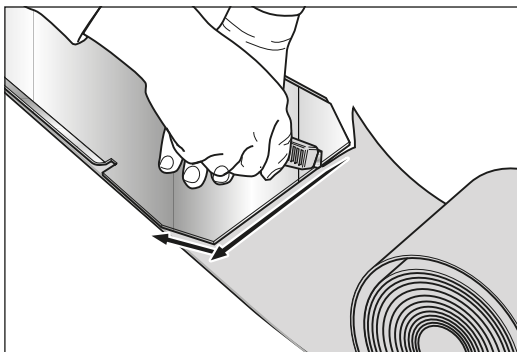

Fig. 27 Use a carpet knife to cut out the abrasive sheet around the template.
- 3 Place the paper template on the reverse of the unrolled abrasive sheet. Use a carpet knife to cut the abrasive sheet according to the template (fig. 27).